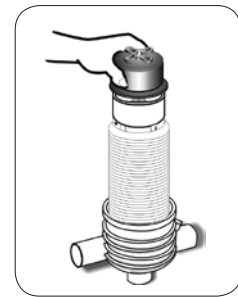

Figure 8
- Replace the tightening cylinder and tighten the butterfly nut until it stops - do not overtighten (Figure 8, 9).